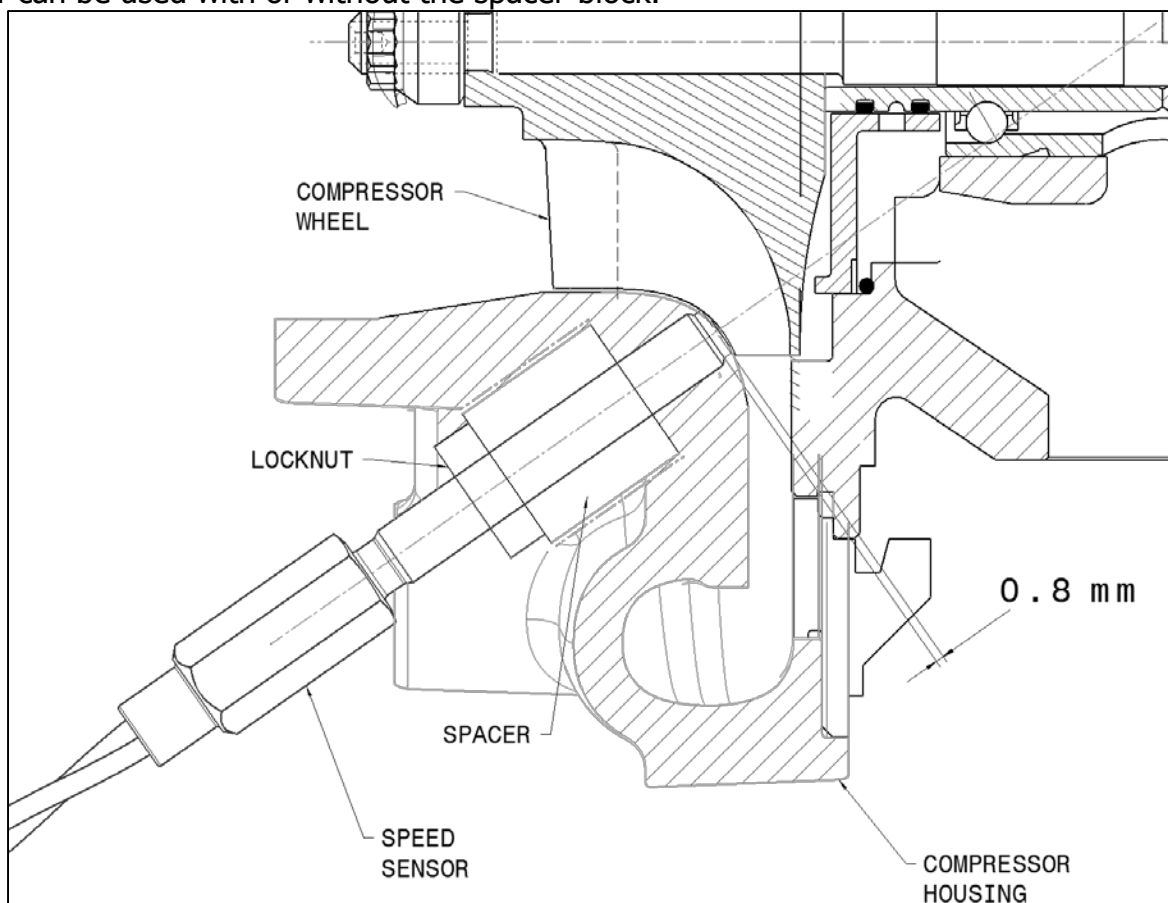

Fig. 10
10. Setting the sensor depth: if the turbocharger is still in the vehicle, ensure that there is enough space to adjust the sensor by turning it in and out. Also ensure there is sufficient space to turn the compressor wheel by hand. If not, remove the turbocharger from the vehicle. Slowly turn the sensor clockwise, while simultaneously spinning the wheel very slowly. Turn the sensor inwards, just until the tip contacts the edge of a compressor wheel blade (see figure 10). Be extremely careful not to jam the wheel into the sensor – the blades or sensor could be damaged. You should be able to feel a SLIGHT resistance and noise while gently turning the wheel as it contacts the sensor. Then turn the sensor back counterclockwise, approximately **1.6** full turns. This sets the sensor depth correctly. The nominal distance from the blade edge is 0.8mm. The sensor thread pitch is 0.5mm/thread ($0.5\text{mm/thread} \times 1.6 \text{ threads} = 0.8\text{mm}$).
NOTE: If the Garrett Turbo Speed Sensor Kit is being used with an older Garrett (T-Series) turbo, or with a non-Garrett unit, refer to figure 10 below for general placement of the sensor. It should always be installed at 0.8mm clearance from the wheel. The sensor hole should be drilled at an angle, placing the sensor near the base of the wheel below the level of the splitter blades, in order to accurately measure the speed. On custom applications the sensor can be used with or without the spacer block.